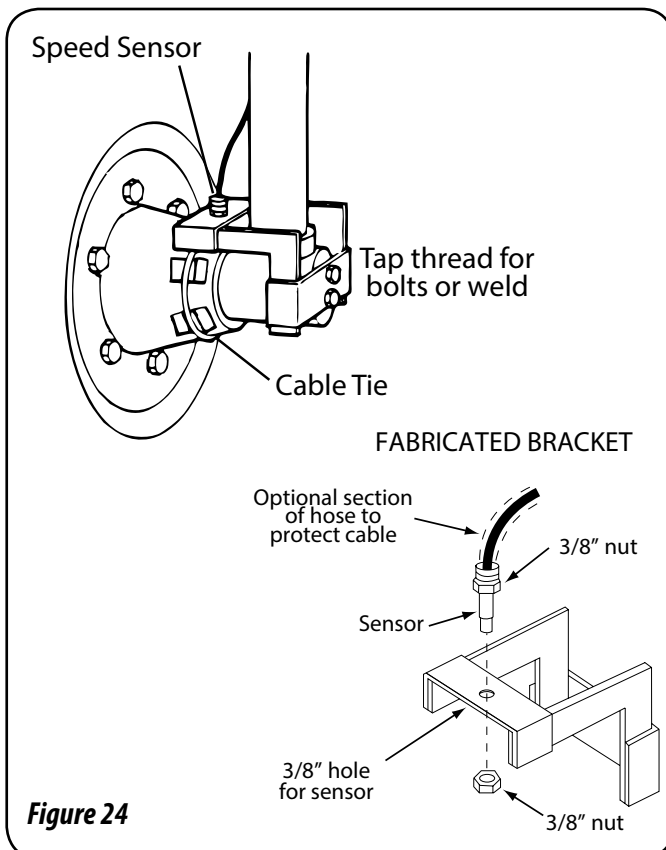

Figure 24
3. Install sensor, adjust to correct spacing ($\frac{1}{4}$ " to $\frac{1}{2}$ " or 6 to 13 mm is recommended), and secure with $\frac{3}{8}$ " locking nuts. See Figure 24 below.